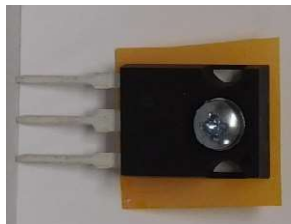

Figure 26-Q5 with 6-32x1/2" mounting screw and insulator
- c. Assemble them as shown in Figure 26. Insert Q5 into the holes on the PCB and snug, but don't fully tighten the mounting screw. Solder Q5's leads into the PCB.